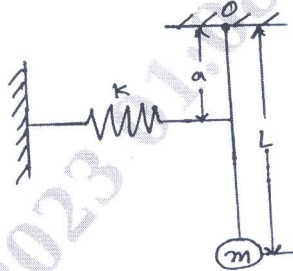

Fig.Q4(a)
- 4 a. Determine the natural frequency of the system shown in Fig.Q4(a). Neglecting the mass of rod.